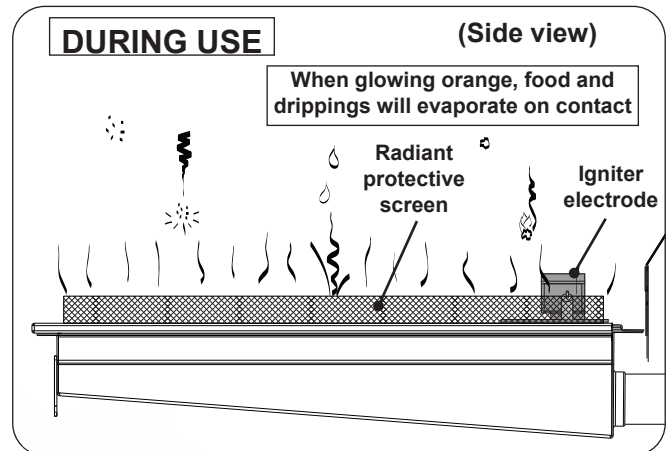

Fig. 44-3 Infrared burner - DURING USE
- **DO NOT place food on the cooking grid until the infrared burner glows orange (Fig. 44-3).** Drippings are heated and evaporate instead of sticking to and impairing burner function.